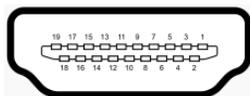

Figure 4-36: HDMI Connector
- CN Location:** See Figure 4-36